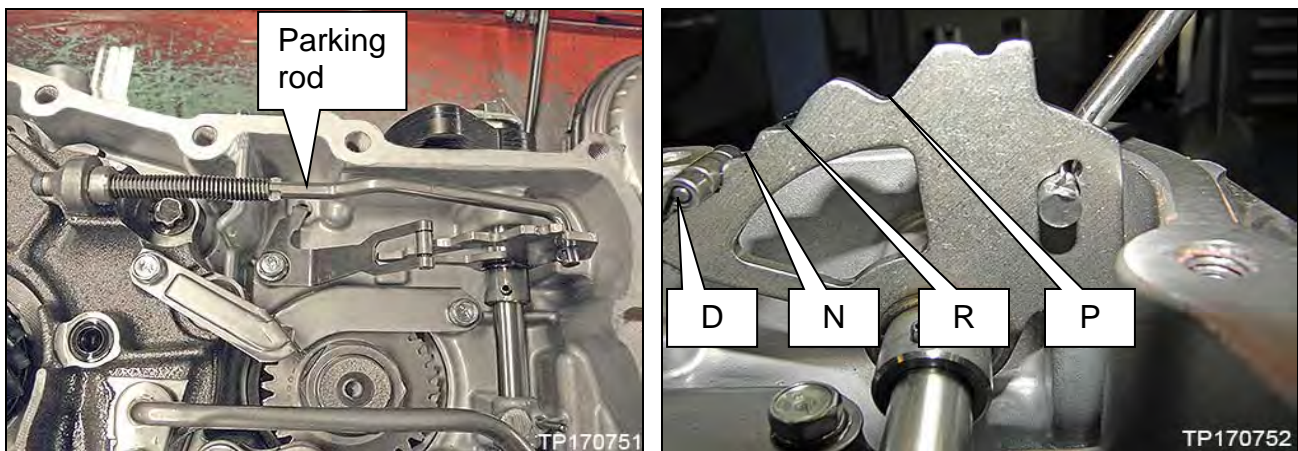

Figure 11R
12. Rotate the detent plate until the detent is in the “D” position (see Figure 11R).